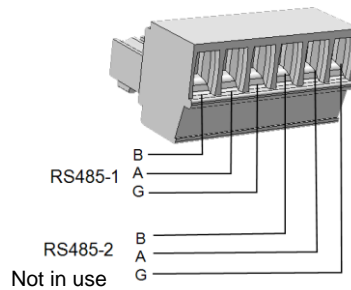

Figure 1: RS485 6-Pin Connector
- For a new RS485 connection installation, disconnect the 6-pin connector from the surge protection board, and connect the RS485 wires to the G, A, and B terminals to the 6-pin connector (see Figure 1).